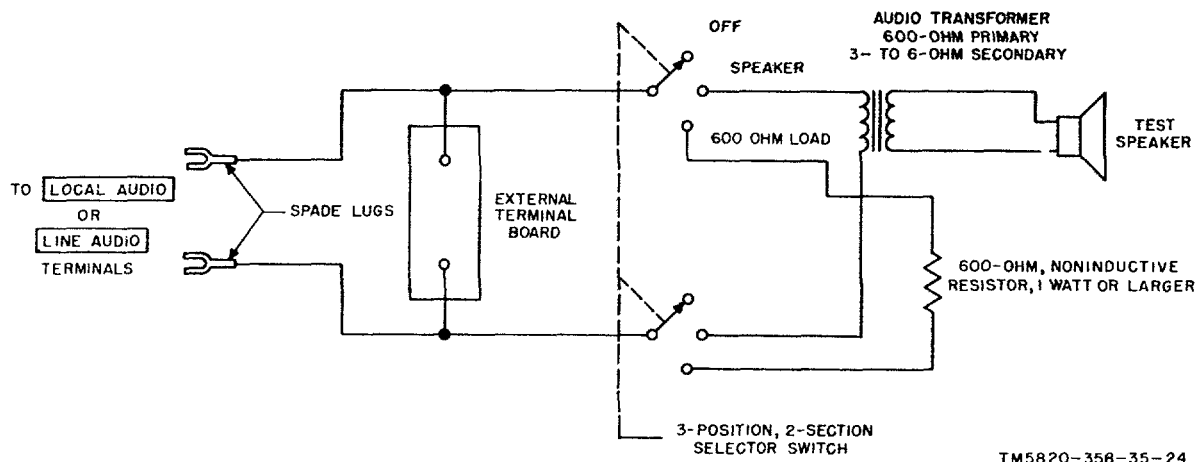

Figure 35. Test-speaker assembly fabrication.
c. A test-speaker assembly (fig. 35) is useful when testing or troubleshooting the receiver. Connect the spade lugs to the LOCAL AUDIO or LINE AUDIO terminals on the rear panel of the receiver. The three-position, two-section rotary switch can be adjusted to an OFF position, a SPEAKER position, or a 600 OHM LOAD position. The external terminal board provides tie points for the ME-30/U. The test-speaker assembly can be made from general-purpose parts. The only critical item is the 600-ohm, noninductive resistor. Use a 2-watt carbon resistor with a tolerance of ± 5 percent.